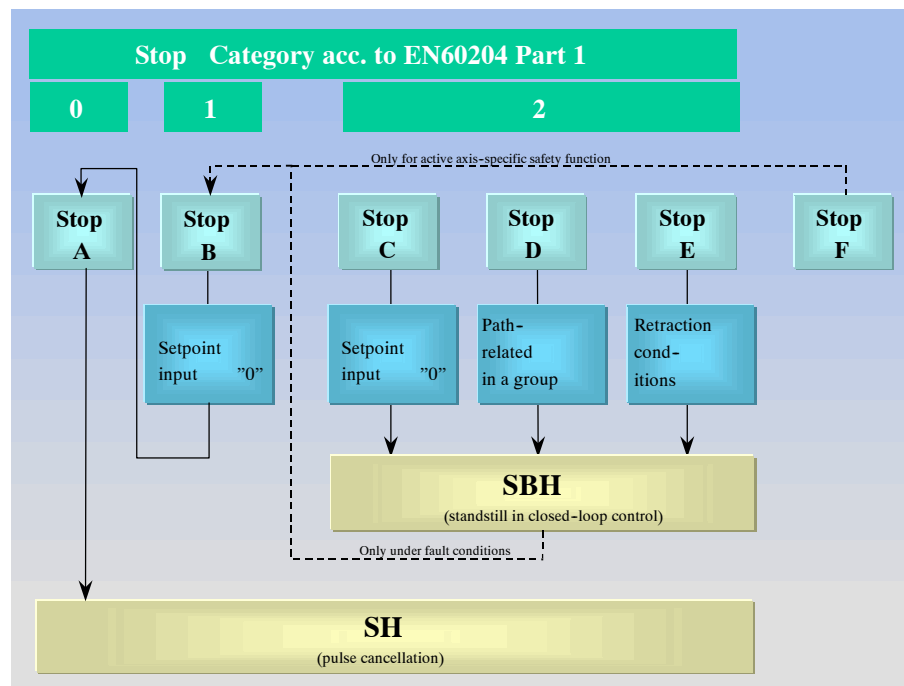

Fig. 6-5 Stop responses, safe operating stop (SBH), safe standstill (SH)
Fig. 6-5 shows the relationship between the stop responses and the safe operating stop (SBH) or the safe standstill (SH).